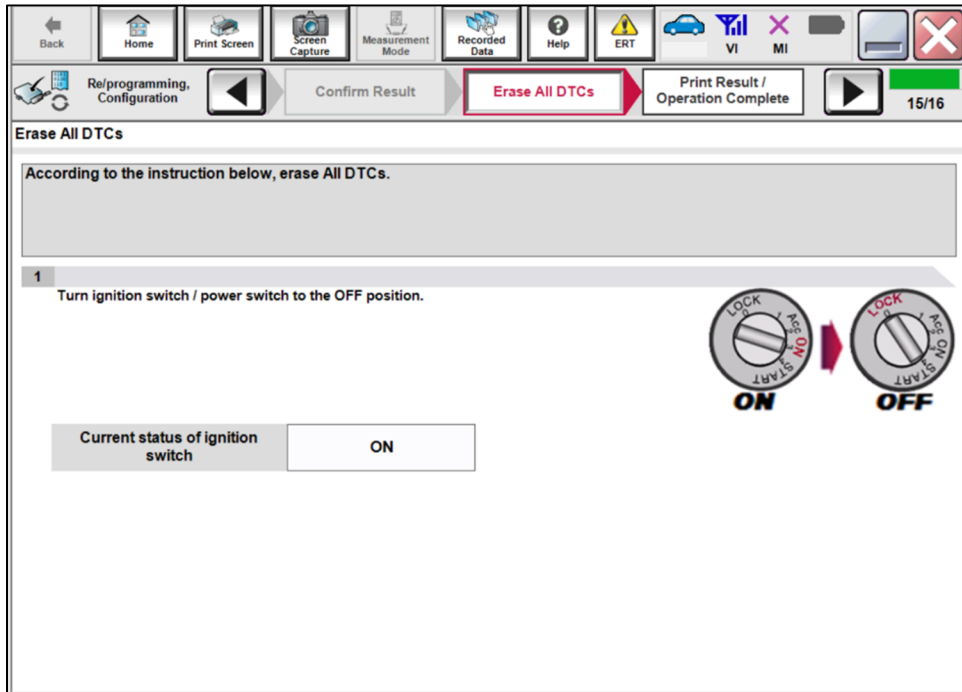

Figure 17
25. Press the power switch one (1) time to turn the EV system OFF (Figure 17), and then go to step 26 immediately.